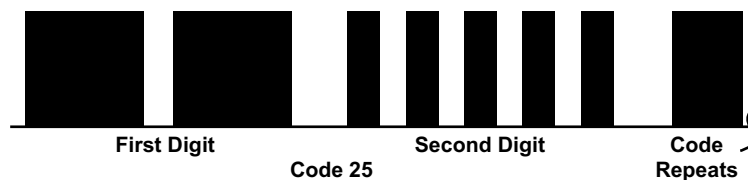

Figure 4-17 Acura transmission Code Type 03
- Type 03, see Figure 4-17 and Table 4-7.